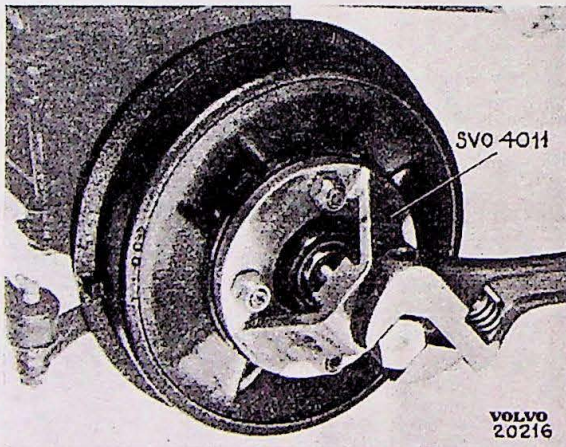
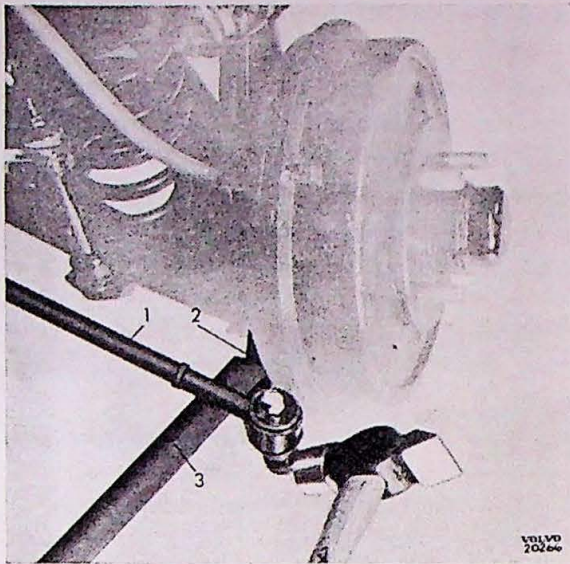

Fig. 7.
Fig. 9.
Draw off front wheel hub by means of tool SVO 4011 (fig. 7) (PV 444 C: SVO 1791) after having removed hub, grease cap and castellated nut from the steering knuckle. Remove the grease cap by tapping on its sides with a rubber headed hammer.
3. Remove grease cap (5 fig. 2) and loosen castellated nut (8) and draw off front hub. Use puller SVO 4011 fig. 7 (use SVO 1791 for PV 444 C).
4. Unscrew the four bolts attaching brake backing plate (41) and splash apron (40) to steering knuckle (6). Lift up splash apron and tie it up with a string to prevent damage to the brake hose.
5. Disconnect steering rod (1) from steering knuckle arm. Use a crow bar and tap with a hammer if necessary. See fig. 9.